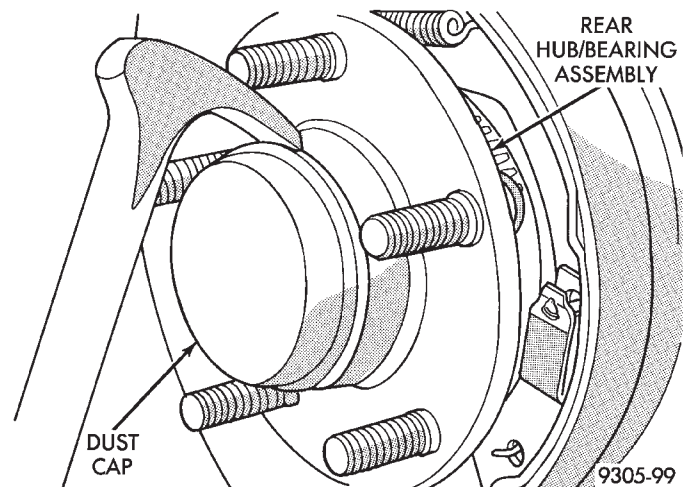

Fig. 77 Dust Cap Removal
(1) Raise vehicle on jackstands or a frame contact type hoist. See Hoisting in the Lubrication And Maintenance group of this service manual.
(2) Remove rear tire and wheel assembly from the vehicle.
(3) Remove rear hub and bearing assembly dust cap (Fig. 77).